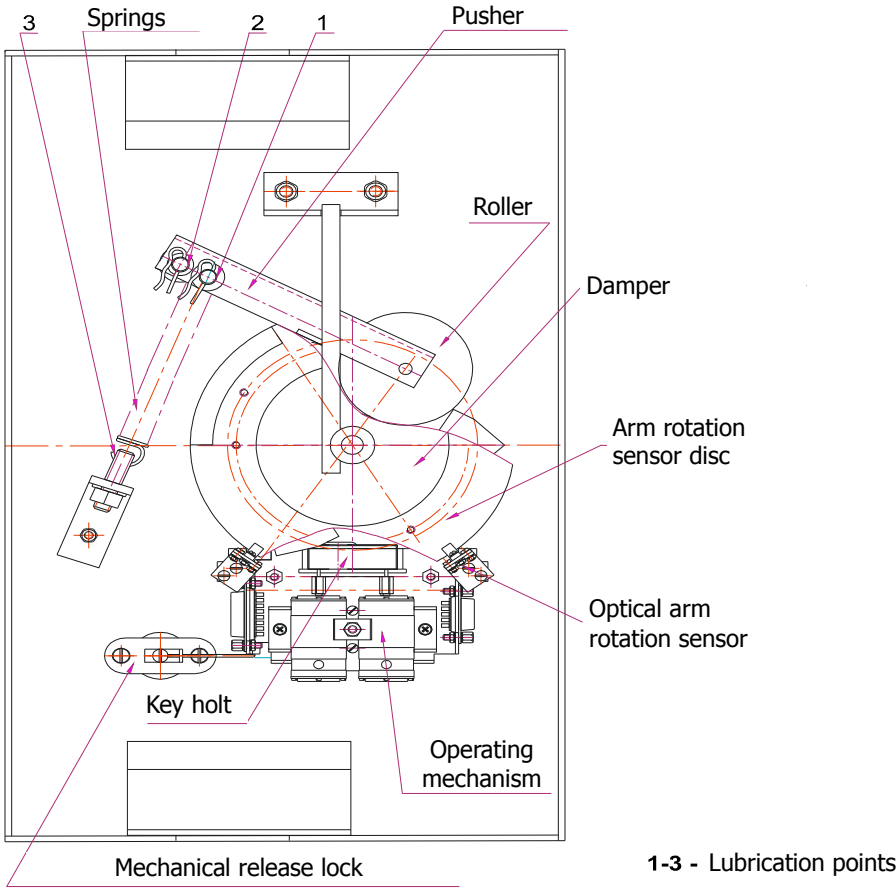

Figure 9 — Arrangement of the components inside the KT-02 housing
- remove the cover (3) as described in section 6;
- inspect the resetting device (the pusher, the springs and the roller), the optical rotation sensors for the barrier arms and the damper (ref. Figure 9);
- four bushes of the resetting device (two on the rotation axis of the pusher and two on the fastening axis of the spring), as well as the holes in the fastening parts of the springs: two-three oil drops into each lubrication point (the lubrication points are shown in Figure 9). Avoid ingress of the lubricant on the arm rotation sensor disc and the roller surfaces;
- the internal mechanisms of the mechanical release locks' (7) and top cover's (4) through the keyholes;
- make sure the barrier arms (5) are secure in place, proceeding as follows:
- unscrew the M4x25 bolt fixing the top cover (6) and remove the top cover;
- Cap the four anchor openings in the housing base (2) and if the auxiliary opening for cable connection in the case (1) lower part (if not used) with the Ø30 mm plugs included in the delivery set. remove the plugs from the anchor openings in the housing base, check the anchor bolts tightening them if necessary with S17 wrench; return the plugs back on the anchor openings;
- return the top cover (3) in its operational position (ref. section 6), do not apply much force in doing this; the top cover lock is closed by pressing the lock internal mechanism without turning the key.